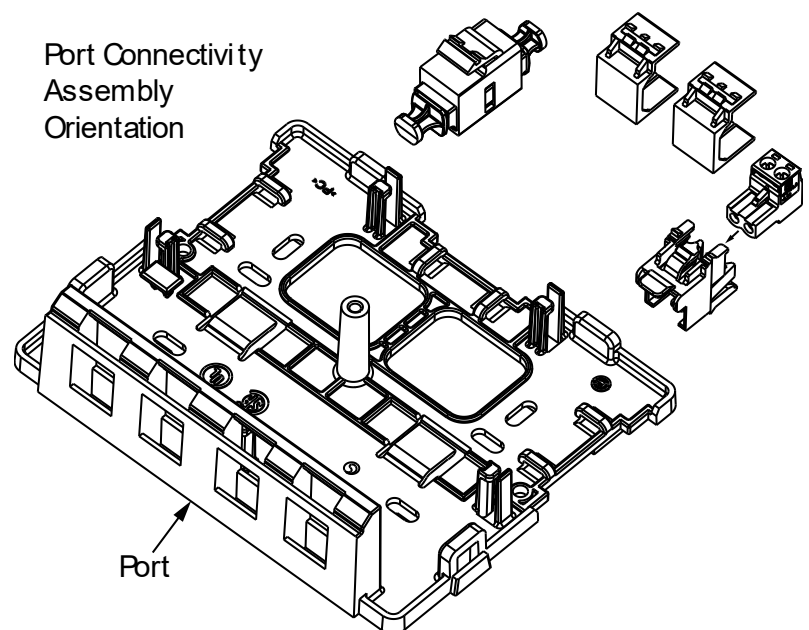
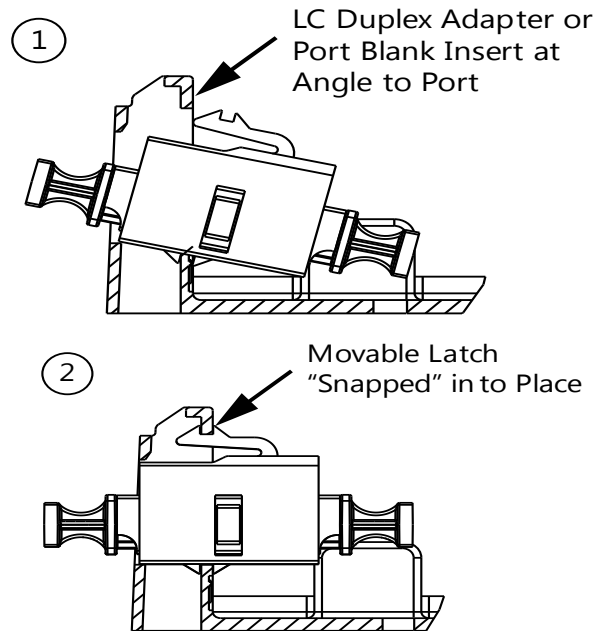

Figure 5
Figure 6
2. From the inside of the module base, align the LC Duplex Adapter with the appropriate port of the modular base. Make sure the movable latch is facing UP (away from the modular base). Insert the Adapter at a slight angle, into the port then rotate it upwards until the movable latch snaps into place. Repeat this step for a second LC Adapter on 2 Fiber Port/2 Power Port versions. Follow the procedure of this step to insert port blanks in unused ports for 1 Fiber/ 1 Power Port versions. Refer to Figures 5 and Figure 6.